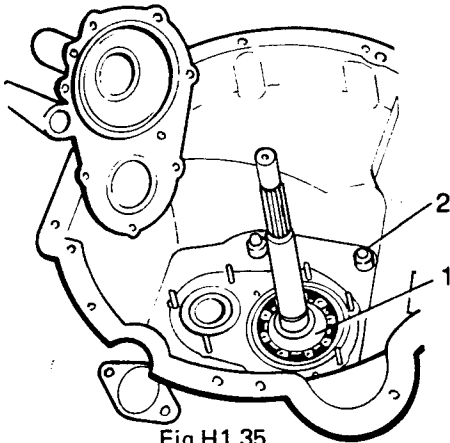

Fig H1.35
- (5) Refer to Fig H1.35. Remove the spring ring and washer (1) that holds the bearing into position on the primary shaft.
- (6) Remove the nuts and washers (2) that retain the clutch bell housing to the gearbox housing.